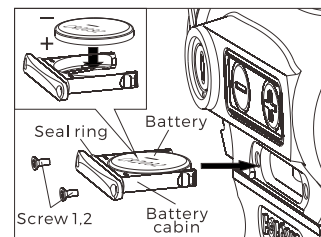

Fig3-2
2) Battery installation (Fig3-2):